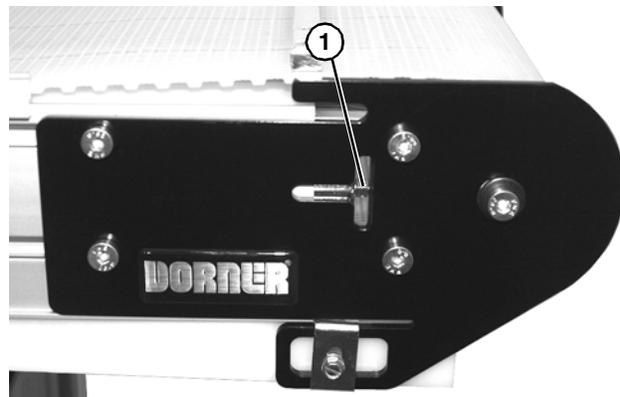

**Figure 27**
2. For fixture belt conveyor, loosen UHMW support screw of idler tails. Loosen screw (**Figure 27, item 1**) on both sides of tail with hex wrench (**Figure 27, item 2**).
6. Tighten UHMW support screws (**Figure 27, item 1**) to 69 in-lbs (7.8 Nm).